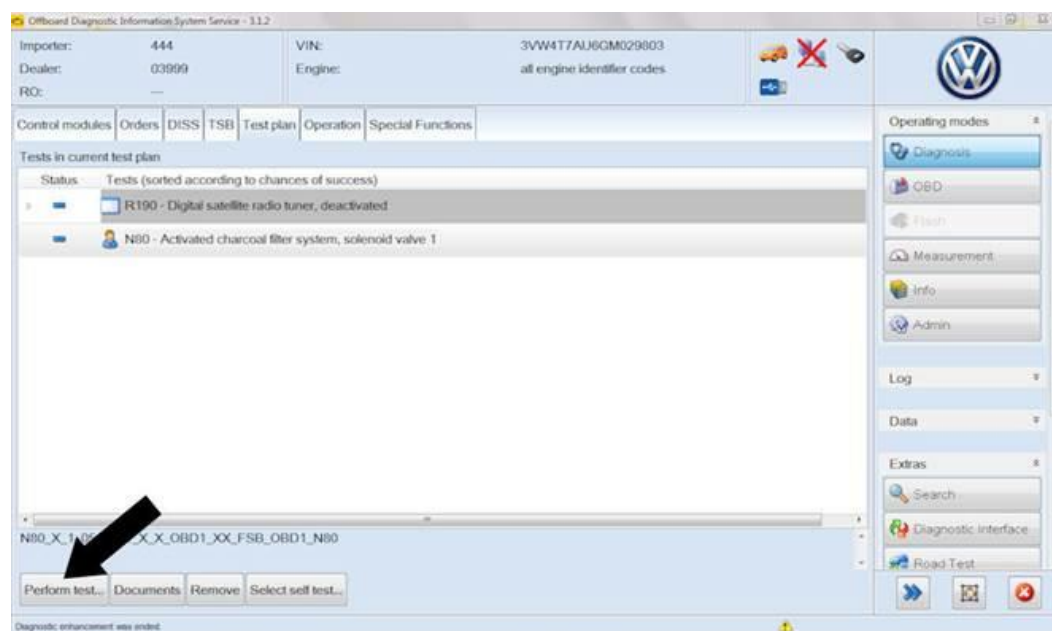

Figure 3
- Highlight the Activated charcoal filter system, solenoid valve 1 -N80- test plan and select “Perform Test” (Figure 3).